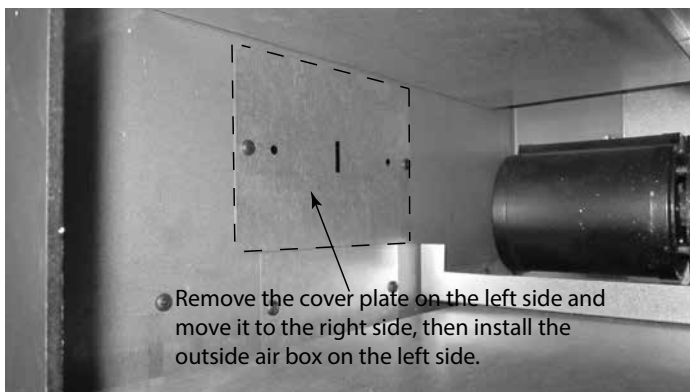

Figure 3.14 Remove Cover Plate (Left Side)
6. On the left side, remove the cover plate two (2) screws. See Figure 3.14.